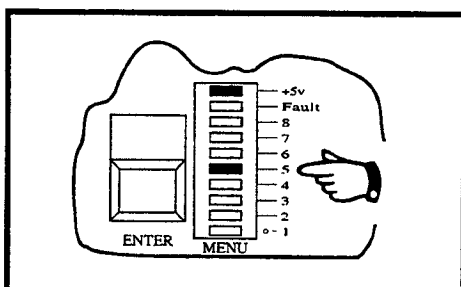

Figure 3-2
- (f) Press the blue **FUNCTION** key a number of times until the segment labelled 5 is illuminated. This segment identifies the 4mA calibration menu option. See Figure 3-2 .